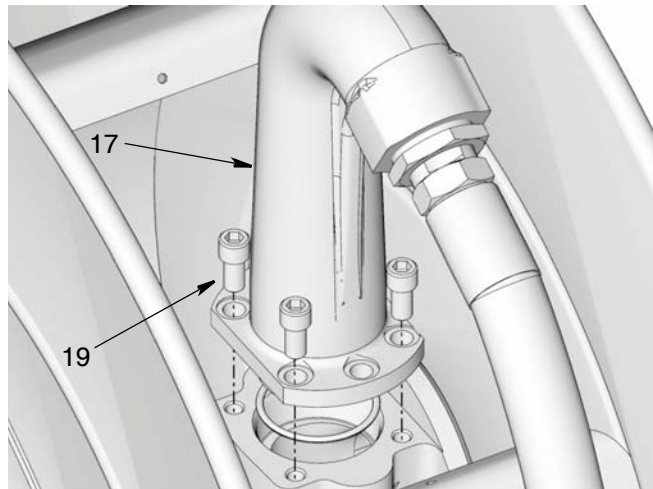

FIG. 75
5. With hose still attached to outlet, remove screws (19) and outlet (17) from spool (FIG. 75).